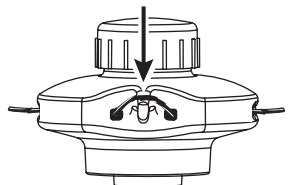

Fig. 19
5. Push the trimmer line behind the hook to secure it from coming loose while running (Fig. 19).